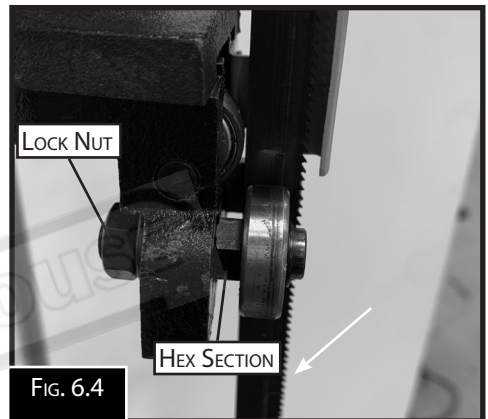

FIG. 6.4
2. Using a spanner on the hex section between the bearing and the casting, adjust the bearing, so it is against the side of the blade. There should be no clearance. (Fig. 6.4)